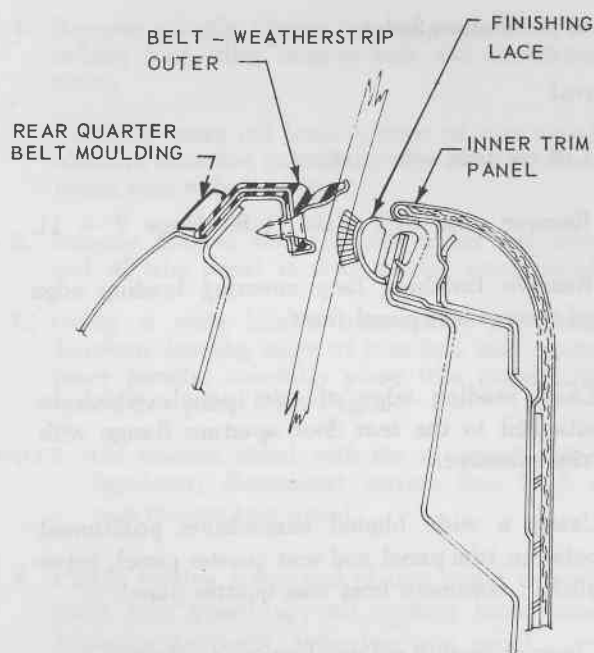

FIG. 4 - 7
2. With rear quarter window fully lowered, remove screws securing weatherstrip assembly to rear quarter outer panel (see Fig. 4 - 7).